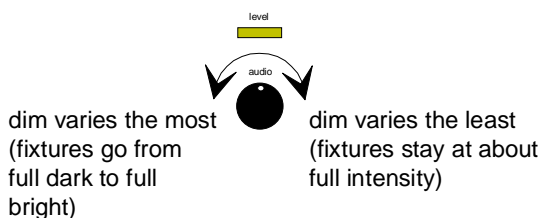

Figure 6-4. Adjusting the sensitivity of the dim modulate effect to the audio signal.
- **Dim modulate (User 6 key):** Light intensity of all active fixtures changes with the amplitude of the audio signal. You can adjust how much the dim varies (from full dim to full bright, or a small dim change resulting in a "flickering" effect) using the <Audio> knob, as shown in Figure 6-4: